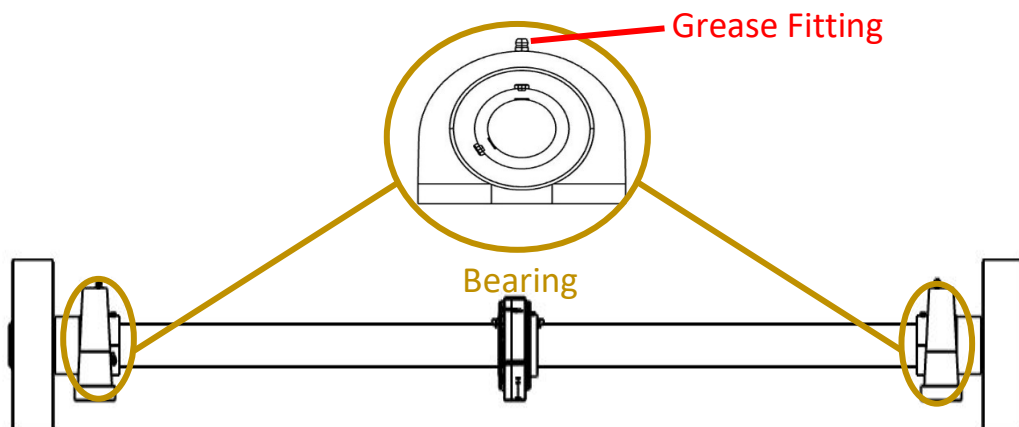

Figure 96: Tram Idler Shaft Bearings Lubrication Points
**Tram Idler Shaft Bearings Lubrication** – Lubrication of the TyBOT Tram idler shaft bearings should occur at 150-hour intervals. There are two bearings attached to the TyBOT idler shaft (see Figure 96). Each bearing is equipped with a grease fitting. Use a suitable tool such as a grease gun to purge general-purpose lithium-based grease through each bearing.